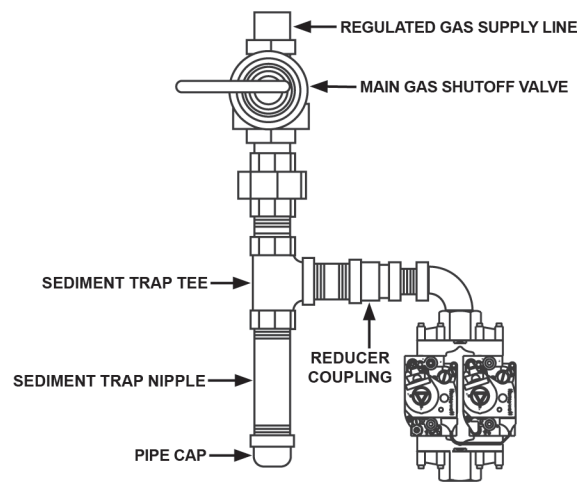

FIGURE 21
To trap any dirt or foreign material in the gas supply line, a sediment trap must be incorporated in the piping, see Figure 21. The sediment trap must be readily accessible and not subject to freezing conditions. Install in accordance with recommendations of serving gas suppliers. Refer to the current editions of the National Fuel Gas Code or B149.1 Natural Gas and Propane installation code.
1. For test pressures exceeding 1/2 psi (3.45 kPa) disconnect the water heater and its Main Gas Shutoff Valve from the gas supply piping system during testing, see Figure 21. The gas supply line must be capped when disconnected from the water heater.
1. Close the Main Gas Shutoff Valve, see Figure 21.
3. Close the Main Gas Shut Off Valve, see Figure 21.
4. Wait five (5) minutes for any residual gas to clear.